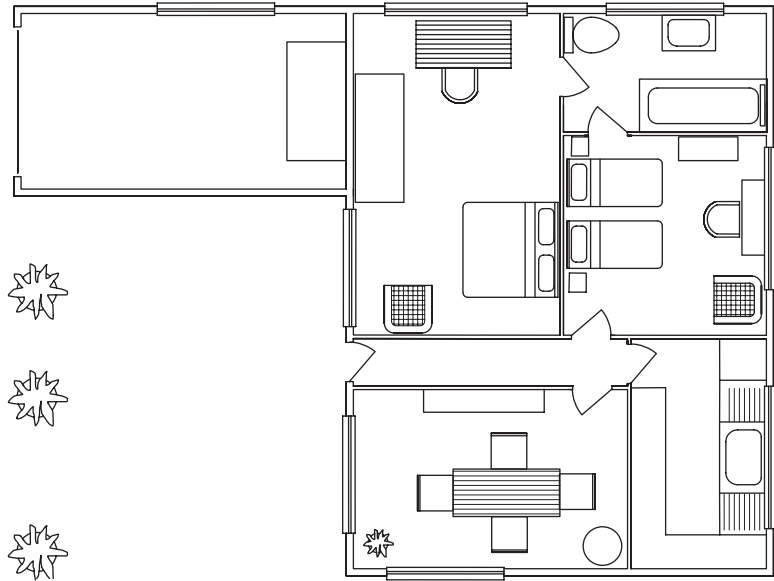

Fig. 9.8 Example – first method of inserting blocks
4. Insert all necessary blocks and add other detail as required to the plan outline drawing. The result is given in Fig. 9.8.
Taking the drawing Fig. 9.8 (page 182) as an example. If all the unnecessary data is purged from the drawing, the file will be reduced from 145 Kbytes to 67 Kbytes when the drawing is saved to disk.